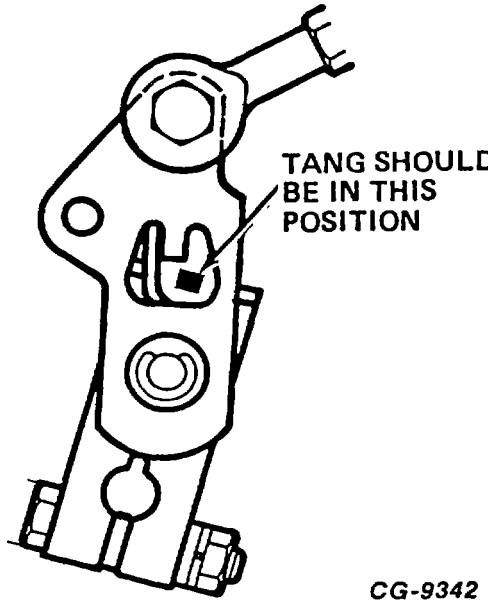

Figure 13a. MW Throttle Lever
1. Assure that accelerator linkage is adjusted properly so outer control lever tang (Figure 13a and b) is in override position. (Refer to Operation 3 "Accelerator Linkage", this Section.)